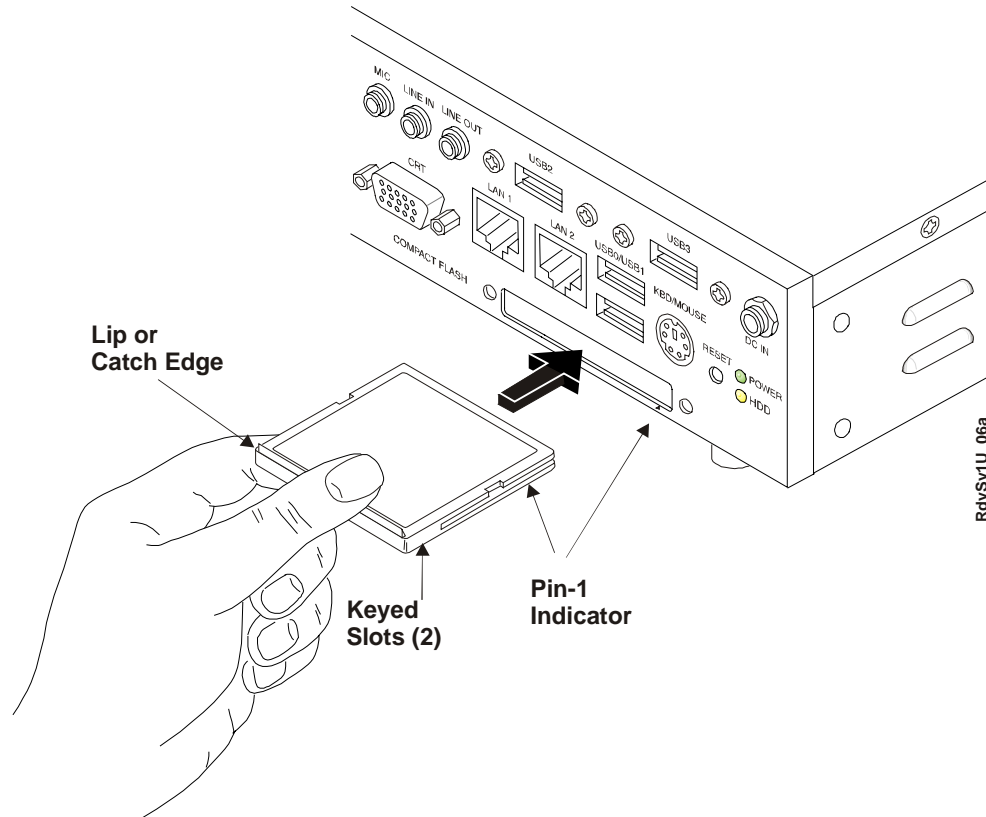

Figure 2-2. Installing Compact Flash Card
7. Insert the compact flash card into the opening provided by matching the pin-1 orientation of the compact flash card with the arrowhead on the I/O panel. See Figure 2-2.
The keyed slots and lip (or catch edge) on the compact flash card are used to install into the socket in only one orientation. Pin-1 should be down and to the right as shown in the Figure 2-2.
8. Push the compact flash card into the opening until it firmly seats into the socket and mates with the pins. See Figure 2-2.